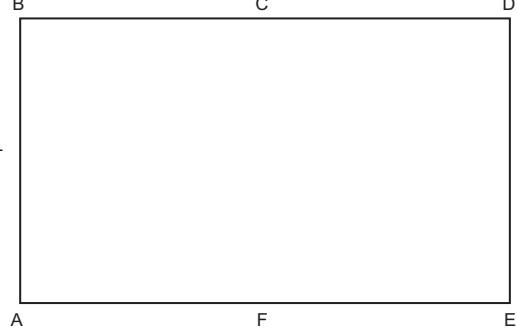

Fig. 6 — Unit Mounting Points
1. See Fig. 6 for unit mounting points.